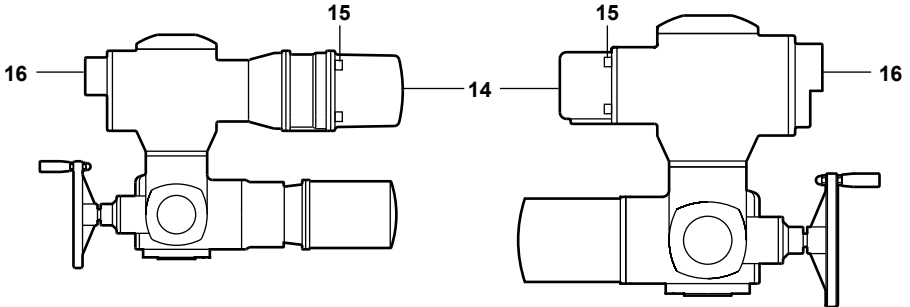

Fig. 6 AM10.1 actuator
- For AR and ARM models ensure that the 4-20 mA output terminals 23 and 24 on plug/socket connector (14) are connected to a load. Alternatively these terminals must be connected together to ensure the input circuit is a 'Loop'. For further information on wiring refer to the manufacturers operating instructions.
To access the screw terminals unscrew the four cheese head screws (15) holding the multi-pin socket into the plug (Fig. 6). For multi-pin terminal connections see appropriate terminal diagram. supplied with the actuator.
- Set selector switch to **LOCAL** position, on the control panel (**16** see Fig. 6).